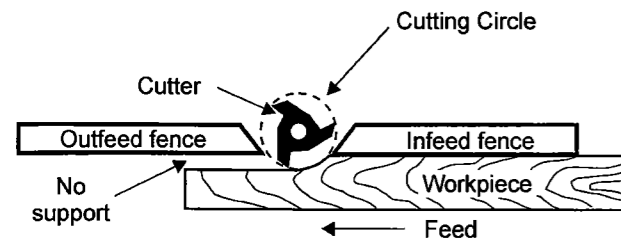

FIGURE 18
2. When the shaping operation removes the entire edge of the work, e.g. in jointing or making a full bead, the shaped edge will not be supported by the outfeed fence when both fences are in line, Figure 18. In this case, the stock should be advanced to the position shown in Figure 18 and stopped. Turn off the machine and move the outfeed fence forward to contact the workpiece, Figure 19. Remove the workpiece, start the motor, and then continue the operation.